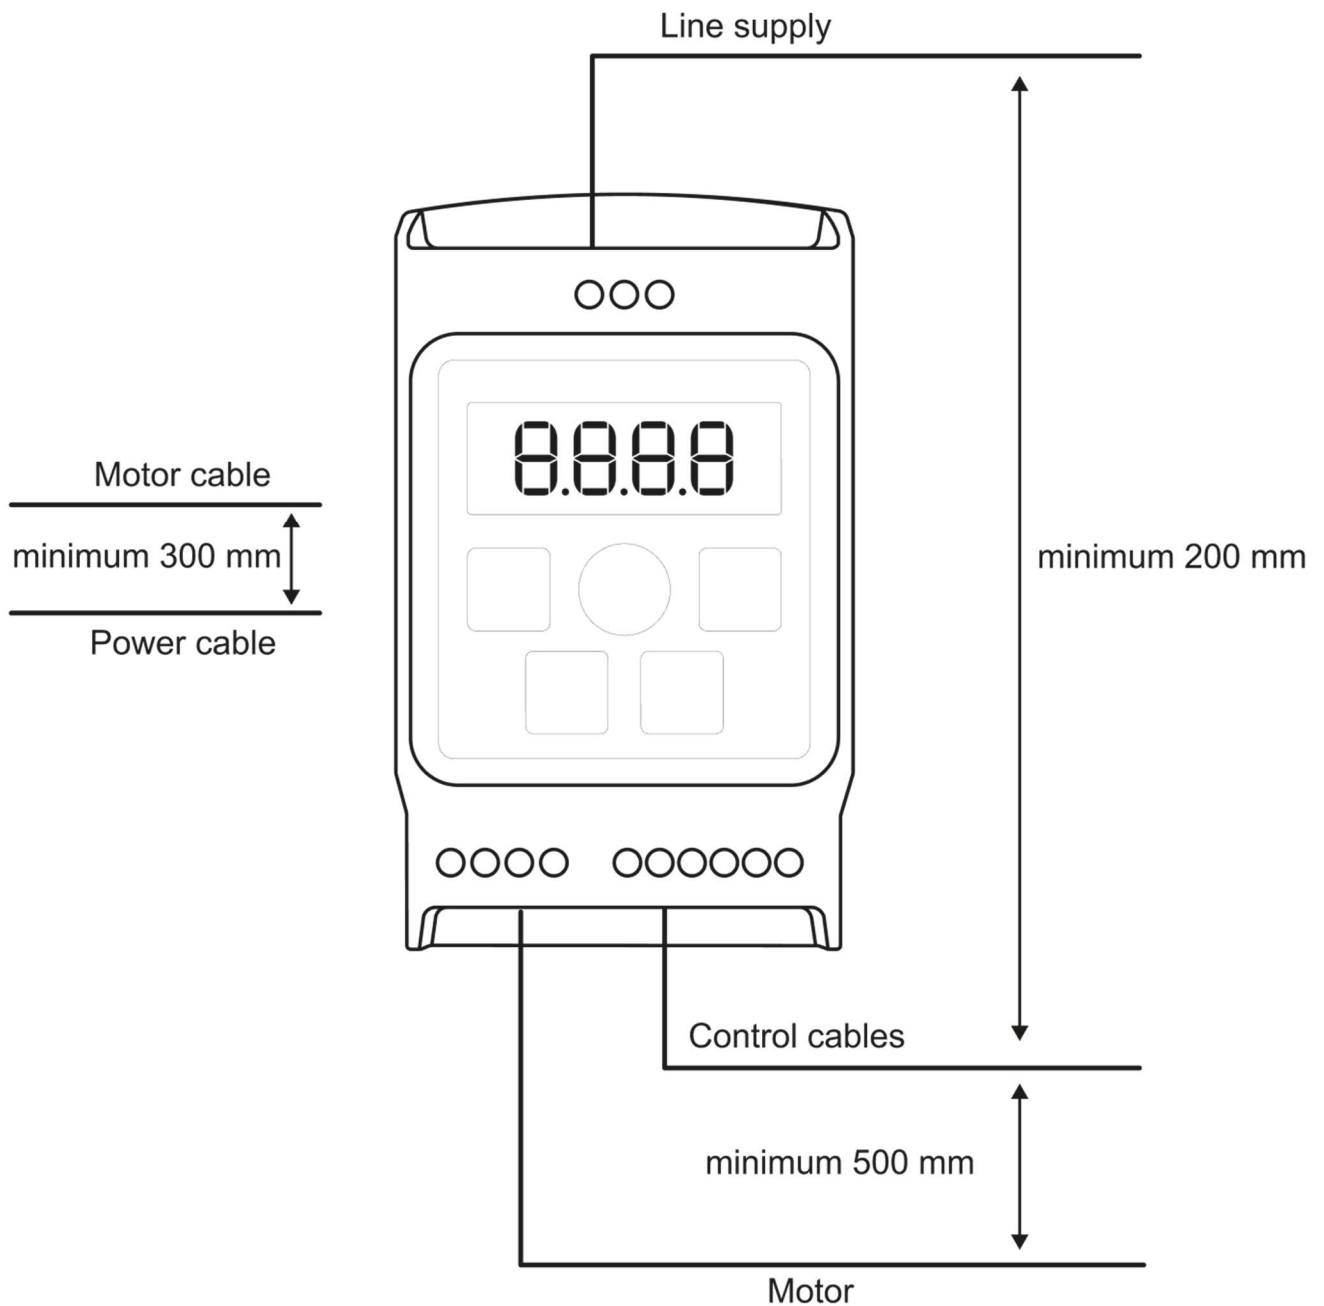

Figure 10 - Best Practices for Cable Routing.
- When power cables to supply the inverter and/or other equipment are installed in trays parallel to the motor cable tray, ensure a distance of at least 300 mm between them, as shown in Figure 10.